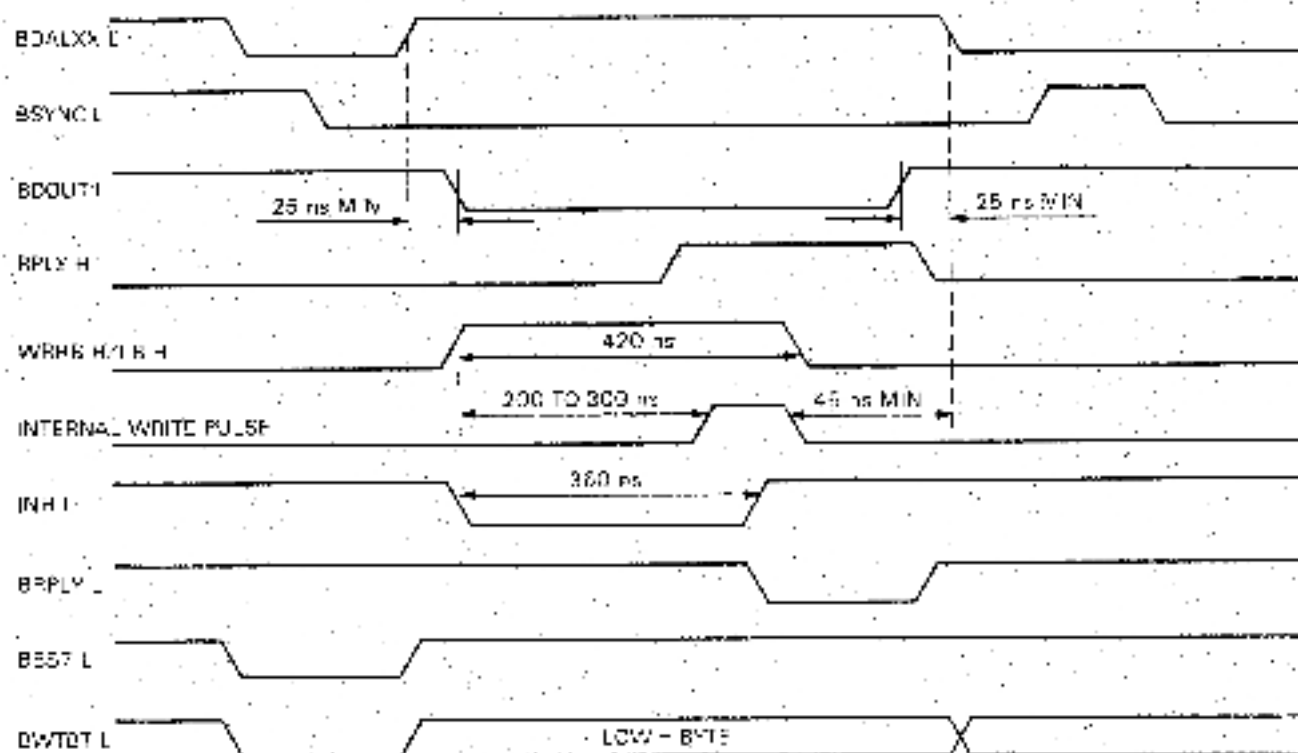

Figure 5-5 Data Output Timing
5.3.2.4 Output Operation – The DZQ11 can accept data from the computer in either bytes or words. To write a word out to the device module, the CPU performs a DATO bus cycle. To write a byte, it performs a DATOB bus cycle (Figure 5-5). An output data transfer proceeds as follows: